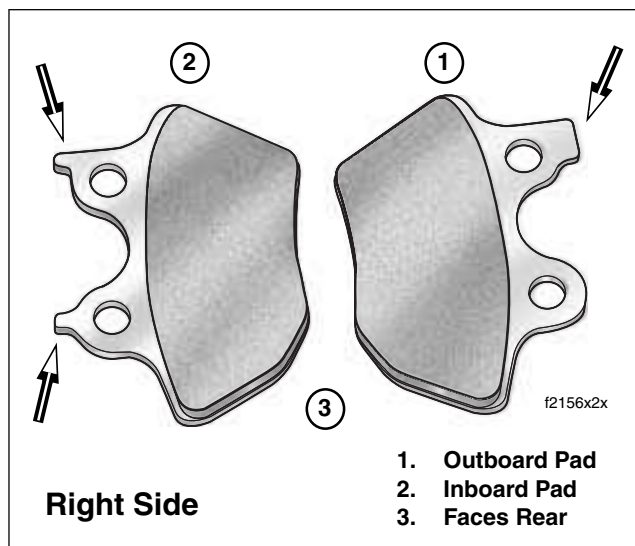

Figure 2-66. Rear Brake Pad Locations
7. Install **new** brake pads into caliper with the friction material facing the brake disc opening. Also, be sure that the pad is oriented so that the curved side faces the rear of the vehicle when the caliper is installed. See Figure 2-66.